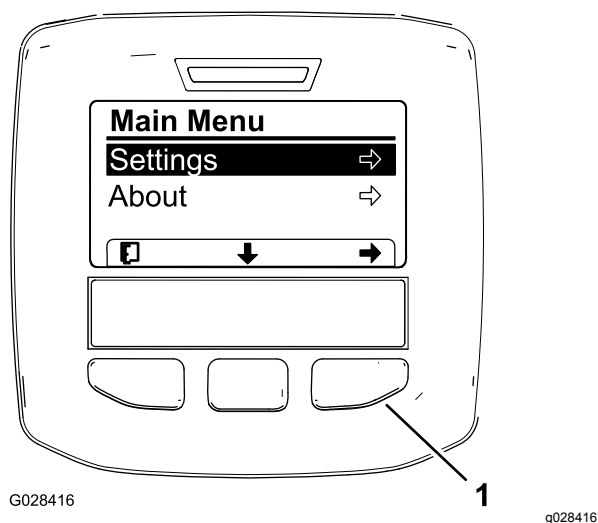
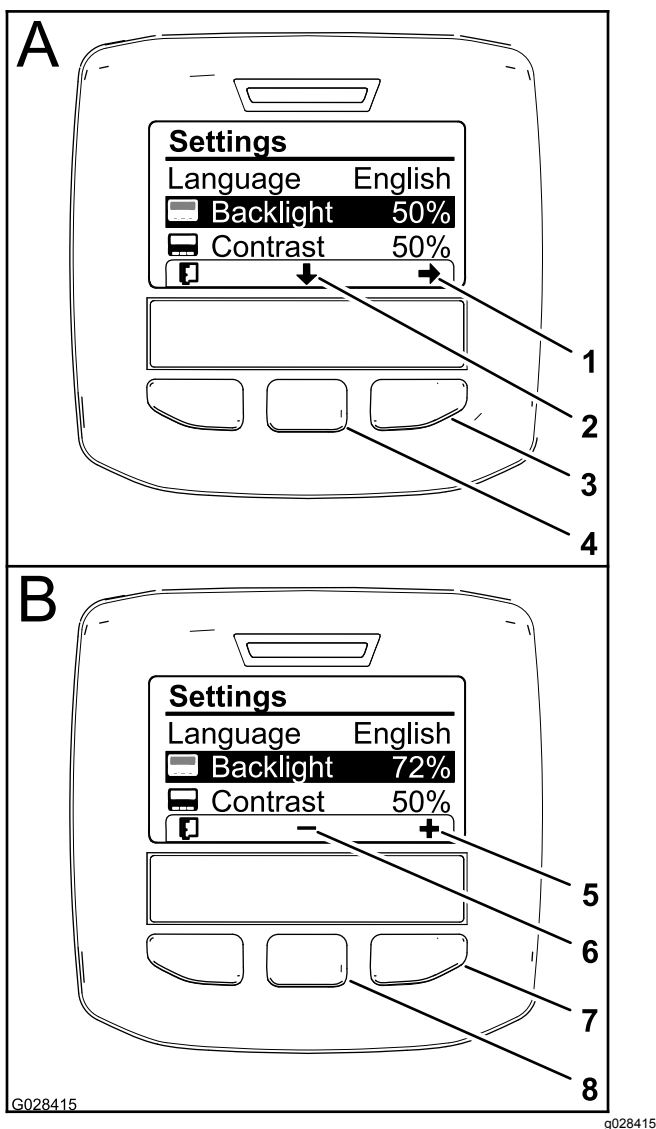

Figure 62
Figure 64
- Press the center selection button to access the Main Menu (Figure 62).
5. Press the left selection button to save your selection(s), exit the Settings menu, and return to the Main Menu (Figure 62).
2. To adjust the backlight level of the display, press the center selection button (the button below the down arrow icon in the display) to move the selected option down to the Backlight setting (Figure 64).
3. Press the right selection button to display the value adjustment context (Figure 64).
4. Use the center selection button and right selection button to change the brightness level of the display (Figure 64).
selection, exit the Backlight menu, and return to the Settings menu (Figure 64).
6. To adjust the contrast level of the display, press the center selection button (the button below the down arrow icon in the display) to move the selected option down to the Contrast setting (Figure 64).
7. Press the right selection button to display the value adjustment context (Figure 64).
8. Press the left selection button (the button below the list icon in the display) to save your selection, exit the Contrast menu, and return to the Settings menu (Figure 64).
9. Press the left selection button to exit the Settings menu and return to the Main Menu (Figure 62 and Figure 64).
10. Press the left selection button to return to the Home screen (Figure 64).